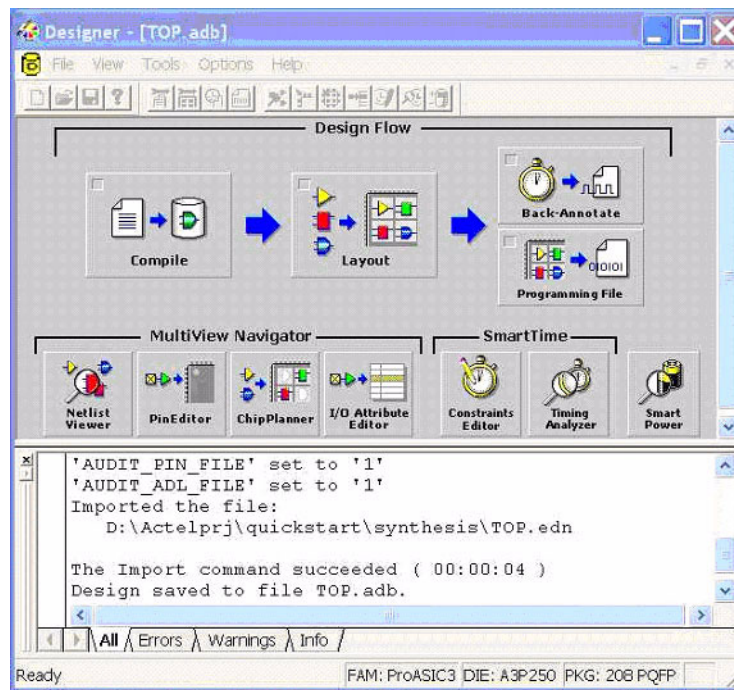
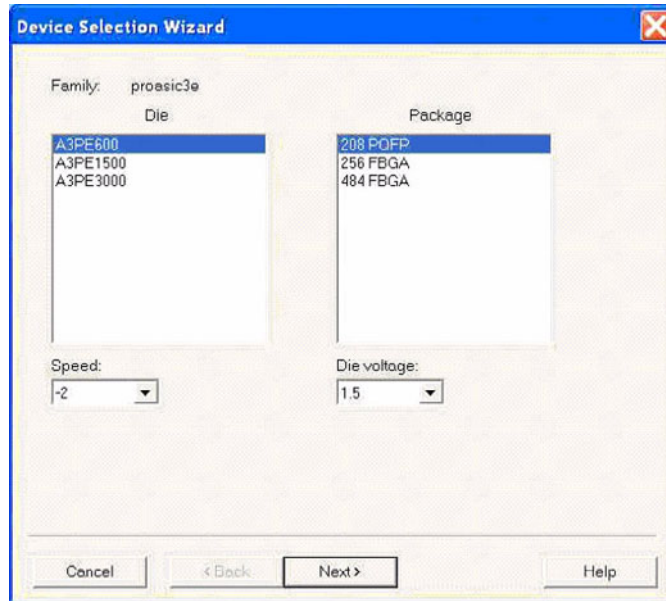
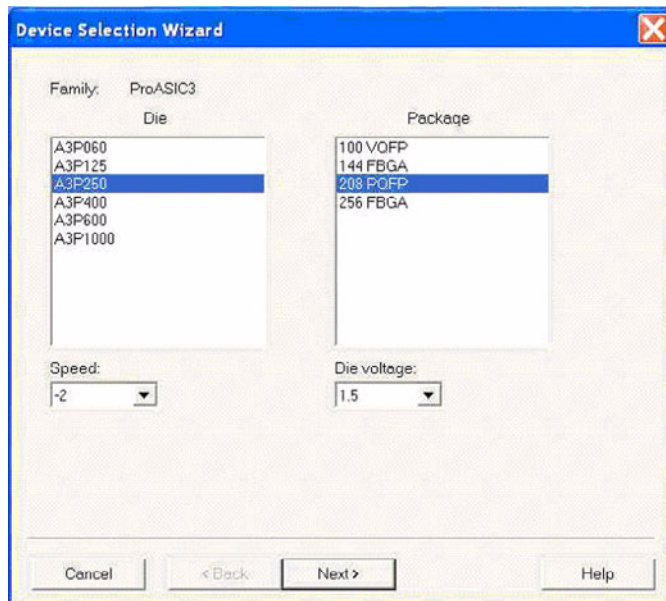

Figure 7-28. Designer GUI
Figure 7-29. Device Selection Wizard-A3PE600
Figure 7-30. Device Selection Wizard—A3P250
1. Click Designer **Place-and-Route** in the Libero IDE Design Flow window, or right-click **Top.vhd** in the **Design Hierarchy** tab and select **Run Designer**. Designer (Figure 7-28) reads in the design file and opens the Device Selection Wizard (Figure 7-29 on page 53 for A3PE600 and Figure 7-30 on page 53 for A3P250).